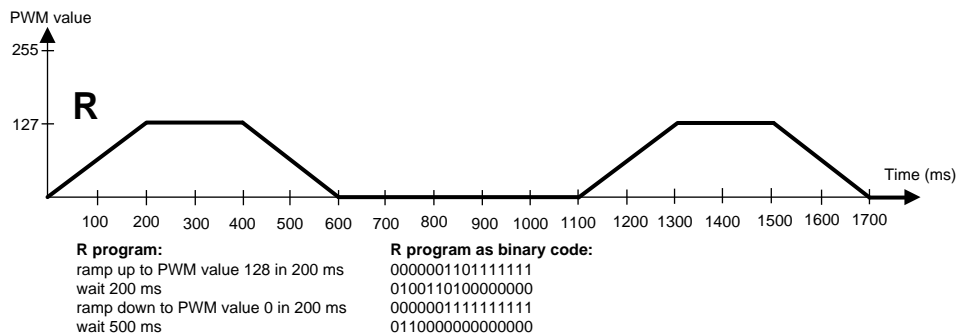

Figure 30. Sequence Diagram
2. **Program Load to SRAM (see Figure 30):**
LP5521 will generate 1100 ms long LED pattern which will be repeated infinitely. LED pattern is illustrated in Figure 30.